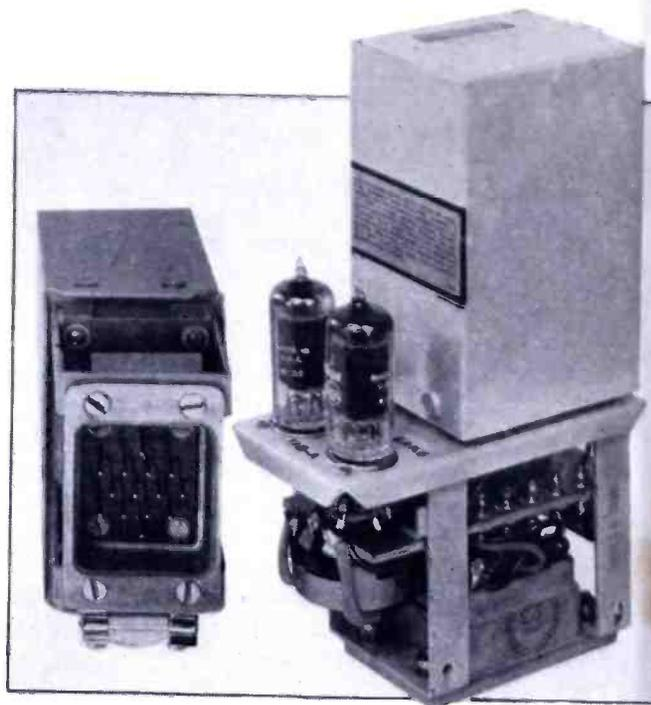

FIG. 1. THE ISOLATION BRIDGING AMPLIFIER CARRIES A PLUG ON THE BASE
**Bridging Amplifier** ★ The type 118-A isolation bridging amplifier, Fig. 1, operating from a 600-ohm line, provides 75 db isolation between line and buss at 15 kc., and 90 db at 50 cycles. It is a zero-gain device, with only sufficient gain to overcome the bridging loss. Two 6AK6 tubes are employed in a single-stage, push-pull circuit, operating with 6.3 volts at .3 ampere on the filaments, and 225 volts at 35 milliamperes on the plates. Output load impedance is 600 or 150 ohms.
In size, this amplifier measures  $6\frac{1}{16}$  ins. high,  $4\frac{1}{8}$  ins. wide, and  $6\frac{1}{8}$  ins. long. Thus, as Fig. 2 shows, 4 units can be mounted on a standard mounting frame, and 3 of these assemblies, totaling 12 amplifier units, can be accommodated on a rack-mounting frame which requires only  $10\frac{1}{2}$  ins. of rack space. The connecting plug is carried at the bottom of unit, Fig. 1, and fits into a receptacle on the mounting frame. The total weight of each unit is only  $2\frac{1}{2}$  lbs.